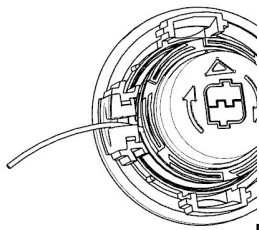

Fig.23
2. Place the trimmer line end through the metal position part, align the upper cover to spool retainer, and push them hard until you hear a clear "click" sound (Fig.23&24)